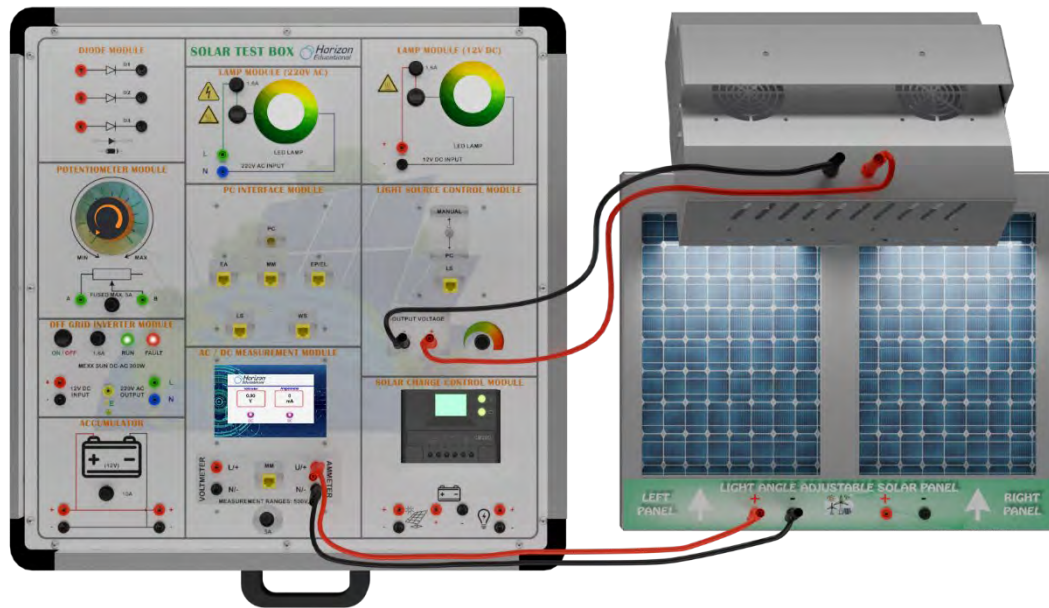

Figure-16. Installation Image of PV Panel Open Circuit Voltage Measurement Experiment
2. Set up the connection as specified in Figure-16. Ensure a constant level of light in the laboratory by creating an average scenario. Any alterations to the positions of the lamps or curtains will have an impact on the experimental outcomes.